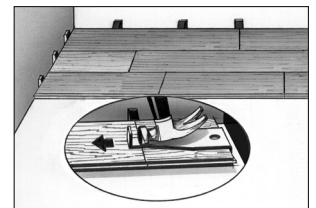

Figure 9
- Mark the last piece, cut and install. After all boards in the row are installed, press or walk all boards flat to the subfloor to begin the next row (Fig. 9).
- Use a pull bar when necessary to ensure joints are tight (Fig. 9).